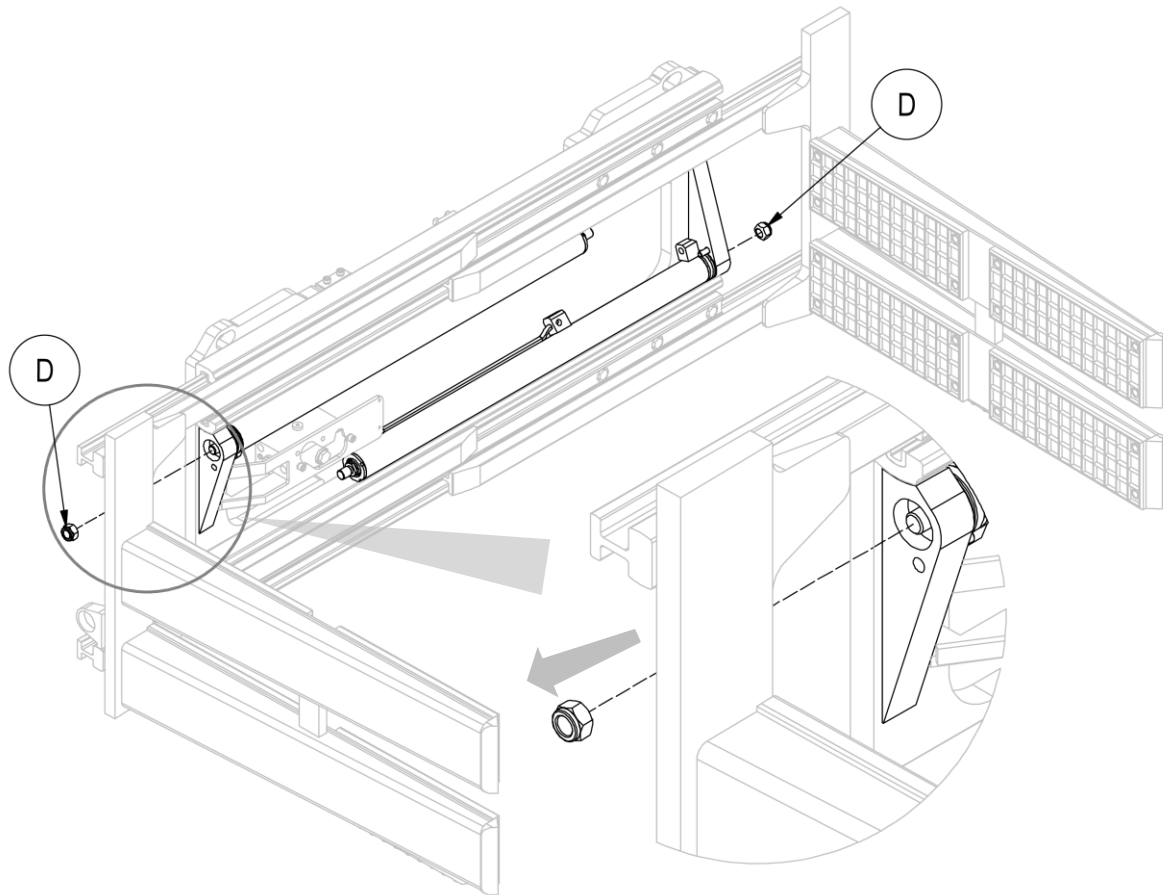

Figure 37
7. Remove the nuts D that secure the cylinders to the equipment assembly and remove the cylinders, taking care not to damage them (see *Figure 37*).